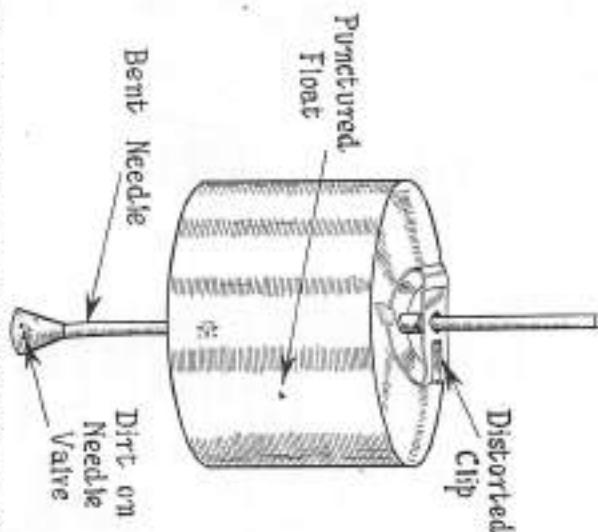

FIG. 20. SOME POSSIBLE CAUSES OF CARBURETOR FLOODING
2. Flooding of the carburettor (see Fig. 20).